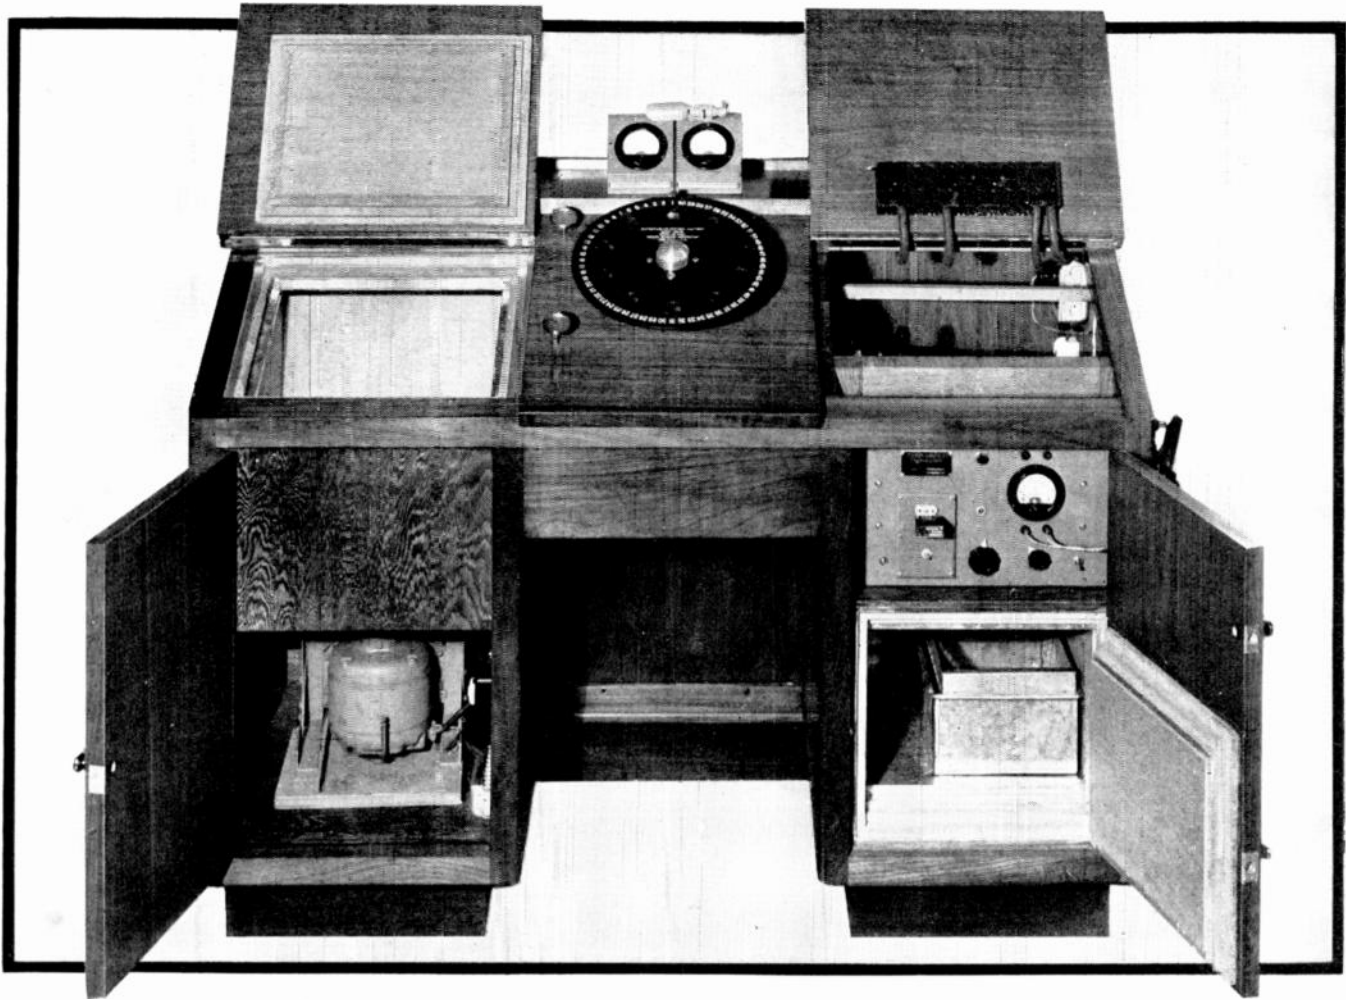
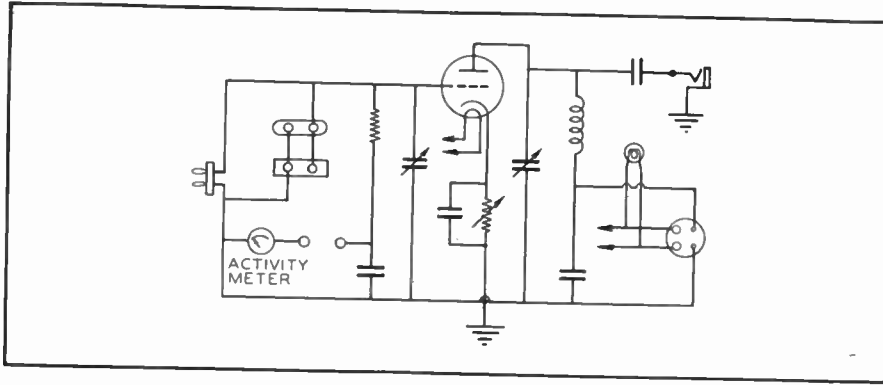
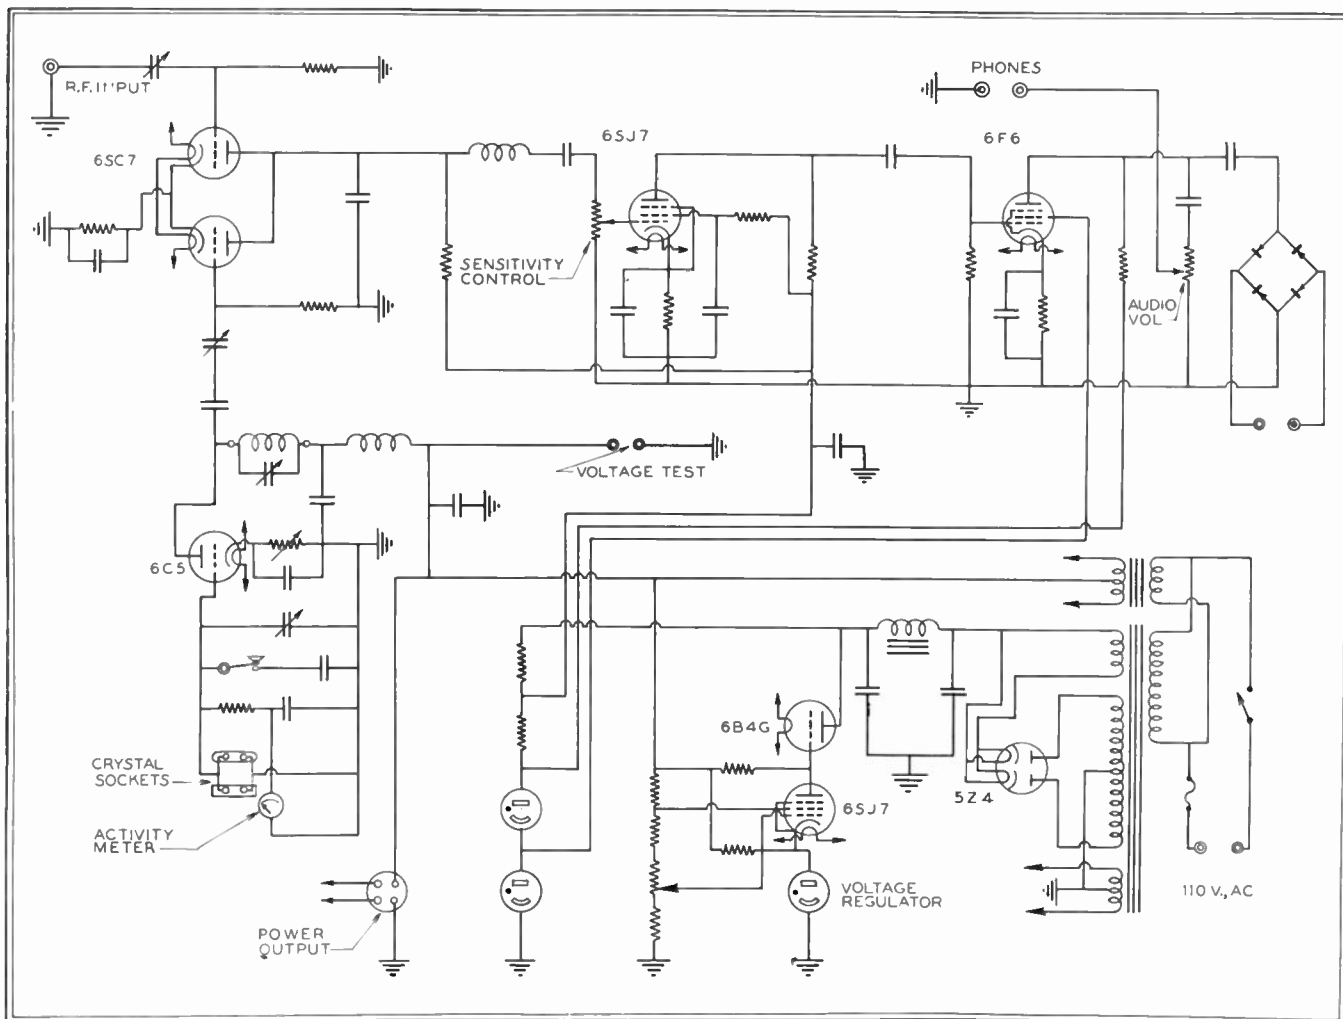

FIG. 1. UPPER LEFT CHAMBER CONTAINS DRY ICE. OSCILLATOR CIRCUITS ARE ON THE RIGHT. CENTER DISC ROTATES CRYSTALS
FIG. 4. X CRYSTAL OSCILLATOR. CONTACTS AT LEFT ARE FOR THE CRYSTAL WHEEL
FIG. 6. STANDARD CRYSTAL OSCILLATOR, MIXER, AND AMPLIFIER. DEVIATION METER IS CONNECTED TO RECTIFIER AT RIGHT
Fig. 1 shows the general arrangement. A motor-driven fan is mounted under the dry-ice compartment, while the heating coils are located at the rear of the center section. The rate of temperature change can be controlled by manipulating the high- and low-heat switches on the front of the cabinet, Fig. 2. A storage compartment for dry ice is provided at the right. There are two thermometers at the left of the wheel, Fig. 1. One indicates the temperature of the chamber. The bulb of the other is sealed in a crystal holder, so as to indicate the temperature of the crystals in the holders mounted on the wheel.
All the electrical circuits are located at the right. The panel visible in Fig. 1 carries the standard reference crystal and its activity meter. Other elements comprising the circuit in Fig. 6 are at the rear. The standard oscillator circuit, Fig. 6, feeds the 6SC7 mixer, to which the output of the X crystal oscillator, Fig. 4, is also connected. The output of the mixer is then fed to a 6SJ7 and on to a 6F6, operating as a saturated amplifier. In this manner, the difference in activity between two crystals is prevented from affecting the reading of
3. Remove the standard crystal and plug it into the standard oscillator of the crystal testing equipment. Adjust the plate condenser of the 6C5, Fig. 6, for maximum activity, as indicated on the